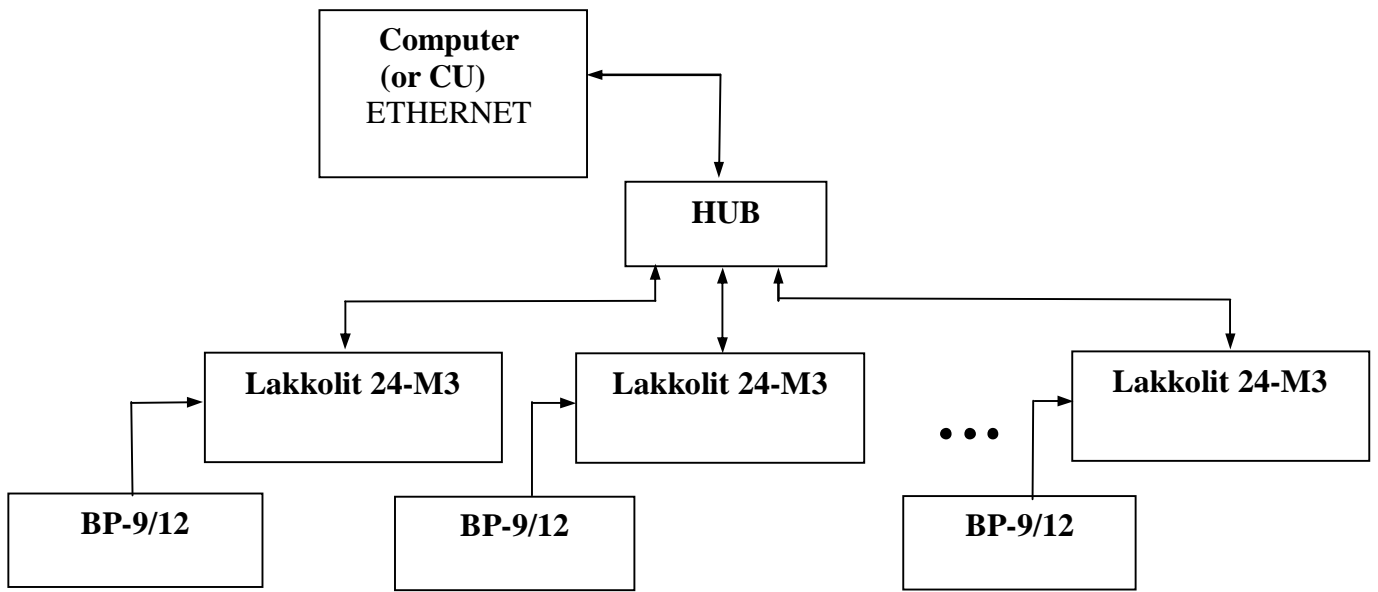

Fig. 6. Diagram of the System in 48 channels and more version.
13. In case of using the System in 48 channels version or more (see Fig.6) the Registrators are connecting to power HUB by cable 2. In the case computer connecting to HUB by cable 1 (or to CU by cable 2).